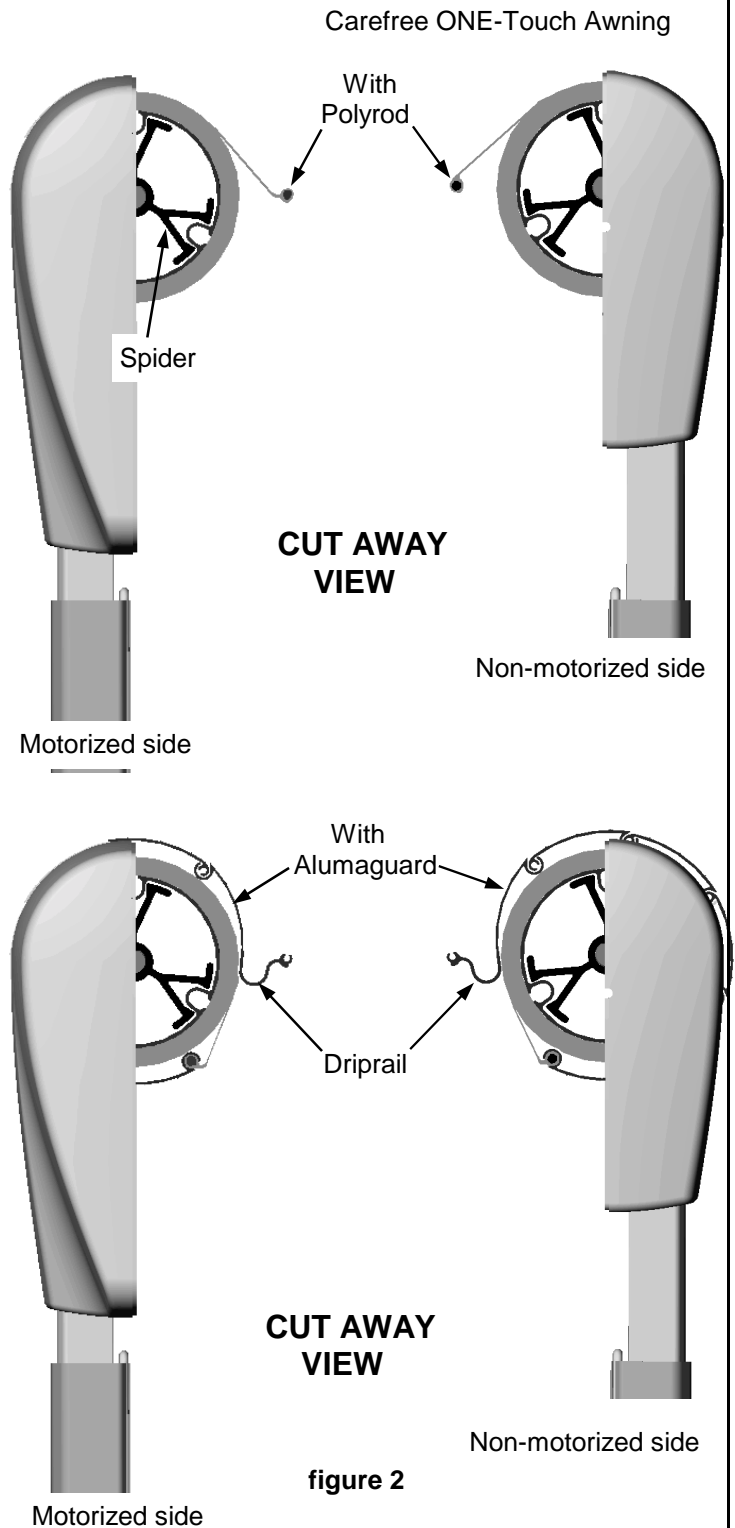

figure 2
B. When the awning arms are attached to the roller assembly they should closely match figure 2 showing the awning assembly viewed from the motorized and non-motorized sides. Start by aligning the three V-shaped openings in the drive wheel with the three slots on the inside of the roll bar and inserting the drive wheel into the open end of the roller assembly.